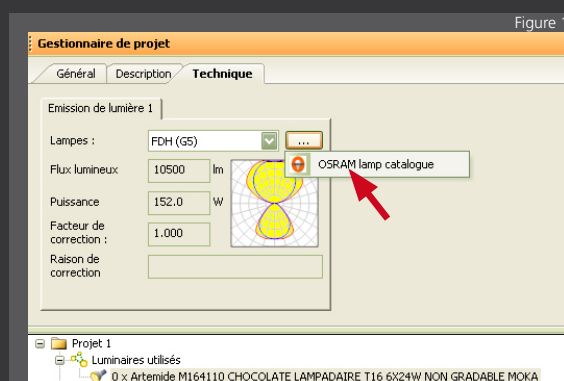

Figure 1
- In the menu **Technical Data**, and in the tab **Lighting Emittance**, clic on the button to the right of the lamp's name, and then clic on «OSRAM lamp catalogue» (Figure 1).